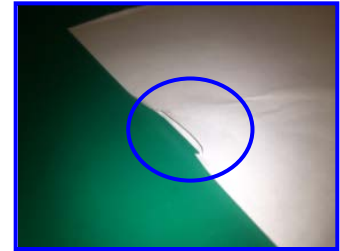

Fig. 1 JAM Paper
- a. If JAM paper or printout paper is like a Fig.1, replace the Roller of the Primary Feed. (Image sample 1)